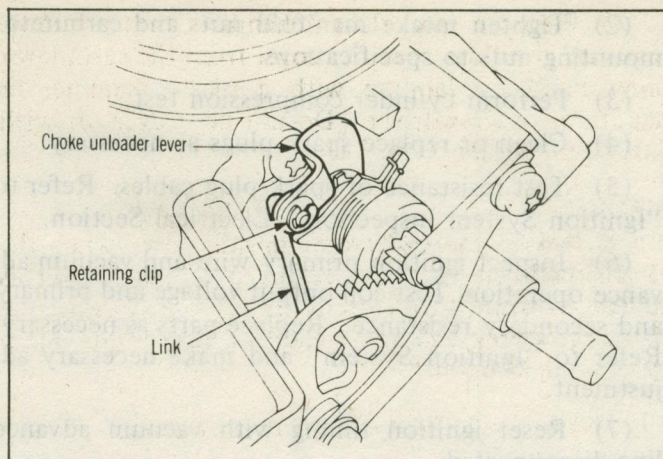

Fig. 21 Removing Choke Unloader Link
(4) Remove the choke unloader link retaining clip and disconnect the choke unloader link. (Fig. 21)